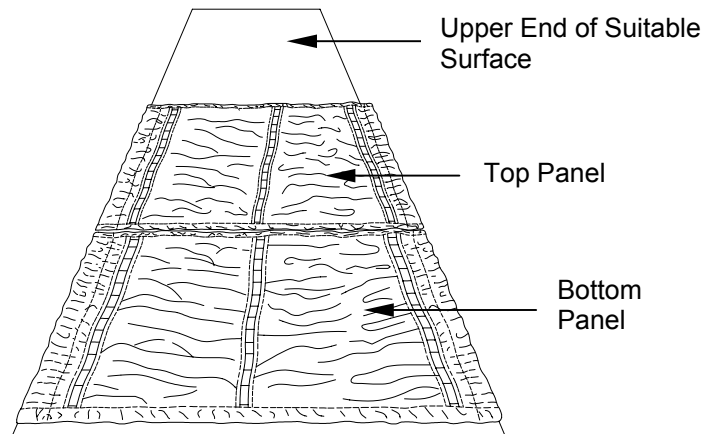

Figure 3. Layout of Two Panels for Stowing the 120/140-Foot Six Loop Extraction Line.
- a. Position Extraction Line Panels on the packing table or suitable surface with stow loops facing up and running lengthwise (figure 3).